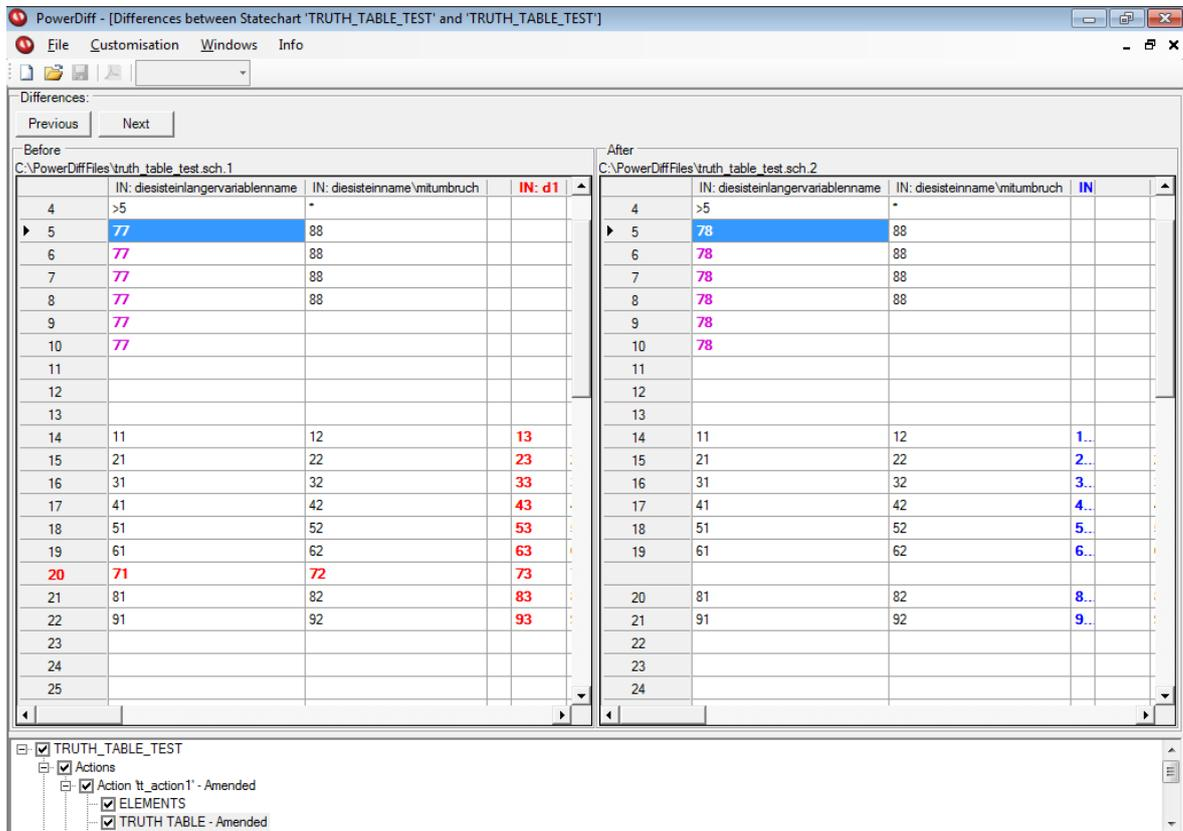

Figure 24: Detail view with differences in truth tables
- Differences in truth tables (refer Figure 24)
The detail view in Figure 24, for example, indicates that line 20 of the truth table has been deleted. Additionally, the whole column “d1” has been removed.